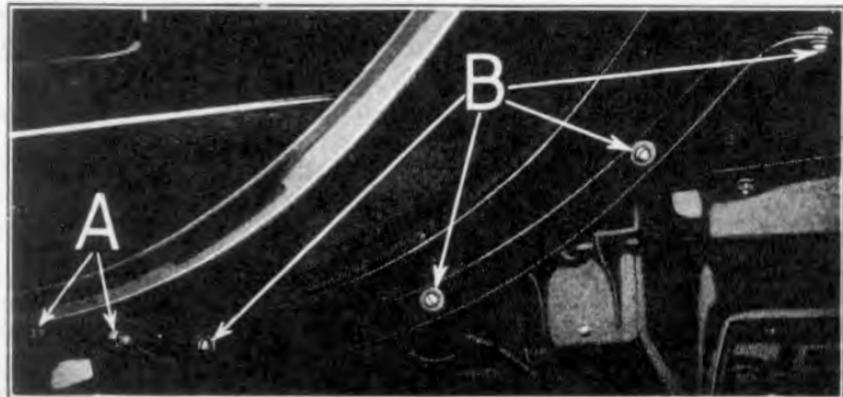

Fig. 534
- 1137 Run off the nuts on the ends of the two front fender to running board bolts (see "A" Fig. 534) and withdraw the bolts.
- 1141 Place flat washers over the ends of the four front fender to dust shield bolts and insert the bolts through fender and dust shield (see "B" Fig. 534). The bolts are locked in position by means of a flat washer and a lockwasher which are placed over the ends of each bolt and nuts run down but not tightened until all bolts are entered.
- 1142 Insert the two fender to running board bolts through running board and fender (see "A" Fig. 534). Place lockwashers and nuts over the ends of the bolts and run down nuts but do not tighten until all bolts are entered.
- 1168 **Removing.** Run off the nuts on the ends of the two front fender to running board bolts (see "A" Fig. 534) and withdraw bolts.
- 1174 Insert the two front fender to running board bolts through running board and fender. Place lockwashers over the ends of the bolts and run down and tighten nuts (see "A" Fig. 534).
- 1180 Run off the nuts on the ends of the four front fender to dust shield bolts (see "B" Fig. 534) and withdraw the bolts.
- 1189 Place flat washers over the ends of the four front fender to dust shield bolts and insert the bolts through fender and dust shield (see "B" Fig. 534). Place a flat washer and lockwasher over the end of each of the bolts and run down nuts tightly.